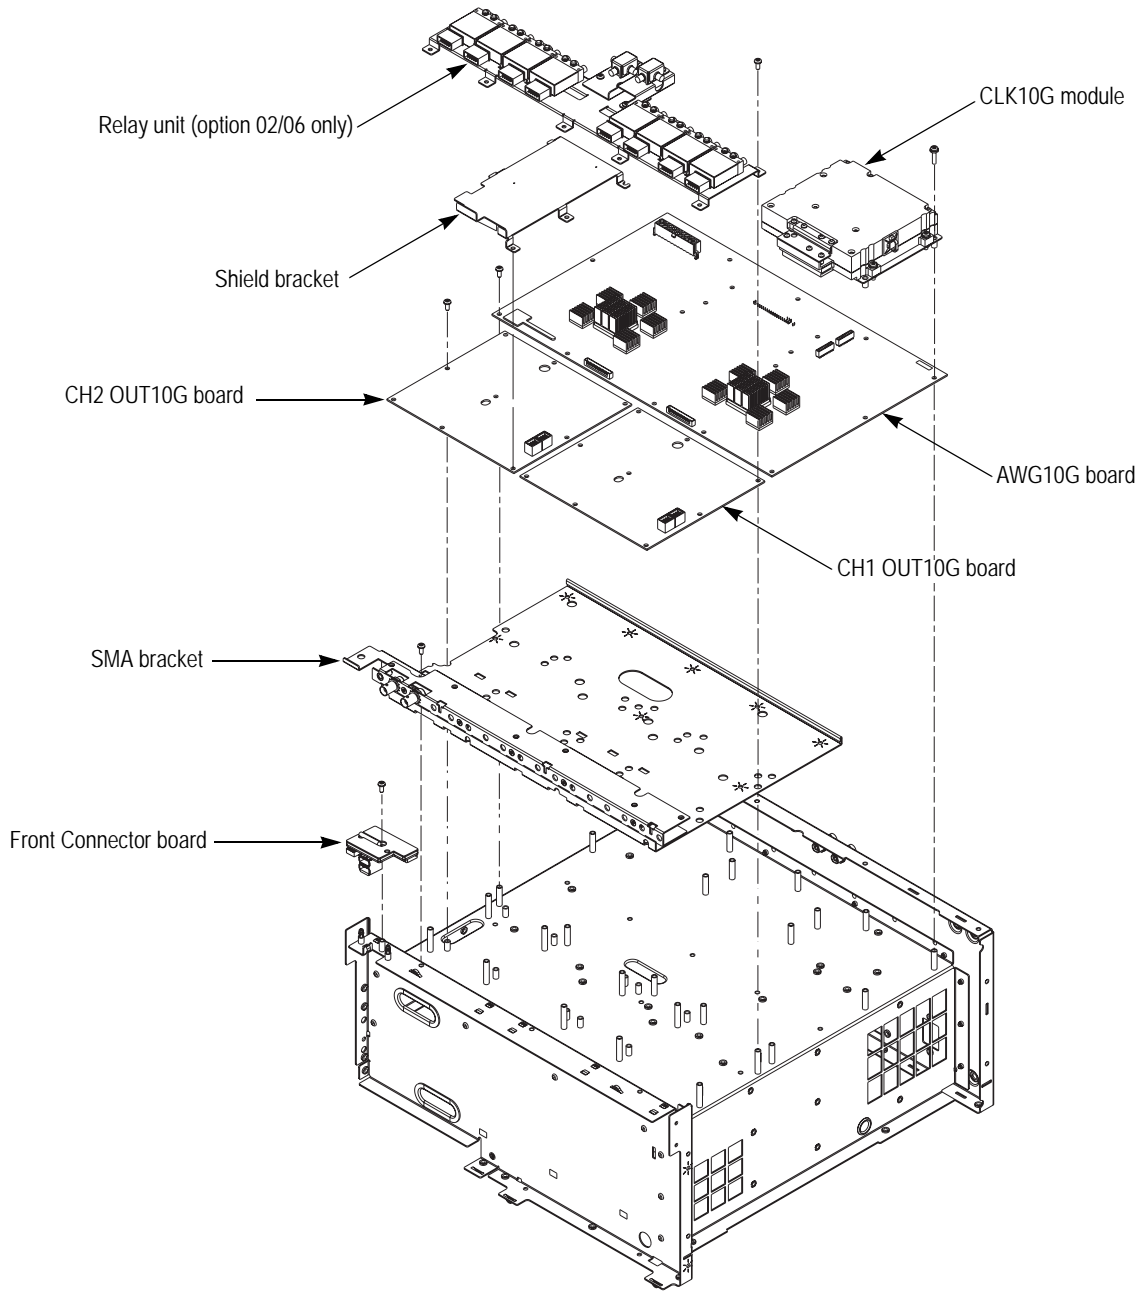

Figure 4-13: Front Connector board, CLK10G module, relay unit, AWG10G board removal
**Front Connector board**    You need a screwdriver with a T-15 Torx tip (items 1 and 2).
**Removal.** To remove the Front Connector board, refer to Figure 4-13 on page 4-28 and follow these steps:
**CLK10G module** You need a screwdriver with a T-15 Torx tip, a #1 Phillips screwdriver, and a pliers. (items 1, 2, 5, and 7).
**Removal.** To remove the CLK10G module, refer to Figure 4-13 and follow these steps:
**Removal.** To remove the relay unit, refer to Figure 4-13 on page 4-28 and follow these steps:
**Removal.** To remove the AWG10G 1 channel board, refer to Figure 4-13 on page 4-28 and follow these steps:
**Removal.** To remove the AWG10G 2 channel board, refer to Figure 4-13 on page 4-28 and follow these steps:
**Removal.** To remove the CH1 OUT10G board, refer to Figure 4-13 on page 4-28 and follow these steps: